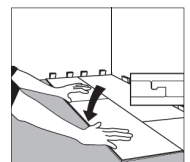

Figure 4
3. Carefully push the board down until the tongue and groove lock together on the side and ends. (Figure 4)